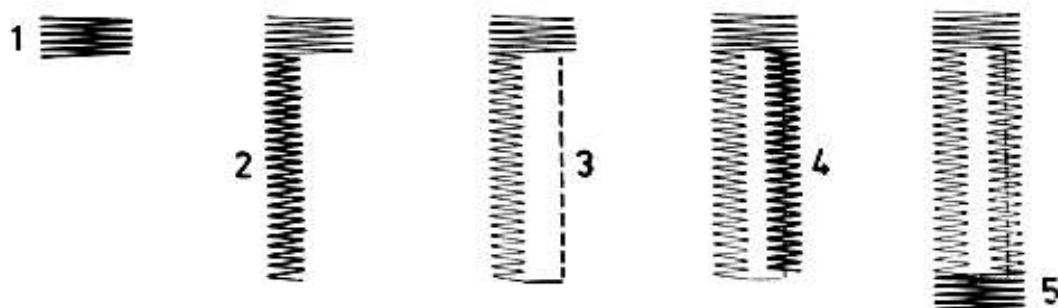

Fig. 46
- c) Make the upper bar tack with 3 or 4 stitches (Fig. 46 - 1) and stop with the needle off the fabric.
- d) Turn buttonhole knob until mark « 2 » is brought into line with mark « D » and make the left row of stitches (Fig. 46 - 2) until the upper bar tack Stop with the needle off the fabric.
- e) Turn buttonhole knob until mark « 3 » is brought into line with mark « D ». The machine will sew straight stitches in the reverse direction (Fig. 46 - 3).
- f) When the needle arrives at the upper bar tack, turn buttonhole knob until mark « 4 » is brought into line with mark « D » and make the right row of stitches (Fig. 46 - 4) until the upper bar tack reaches the limit marked by the guide. Stop with the needle off the fabric.
- g) Turn buttonhole knob until mark « 5 » is brought into line with mark « D », make the lower bar tack with 3 or 4 stitches: the buttonhole is then completed (Fig. 46 - 5).